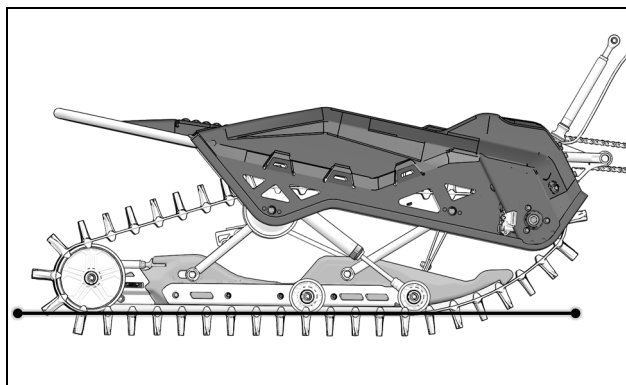

Figure 1
**Adjustment principle:** When laying down the suspension on a flat surface, contact between track and suspension rail must happen at the same time along the entire length of the rail. Figure 1.